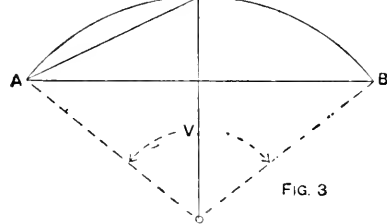

FIG. 3
will be approximately equal in length to the arc A B. Apart from geometrical construction, the length of the arc may be measured by stepping a pair of dividers round the arc, counting the number of steps taken, and then setting out the same number of steps along a straight line. This will always give a result short of the actual length, but the smaller the opening of the dividers the more accurate will be the result. A more accurate way is to use a wheelmefer, or a special instrument called an opisometer. The length of the arc may be calculated as follows. Set out the arc either full size or to as large a scale as possible, as in Fig. 3. Measure the chord A B, bisect it, and set up a perpendicular cutting the arc in C. Measure A C, which is the chord of half the arc. The length of the arc is found by multiplying the length of A C, the chord of half the arc, by 8, from this product subtracting the length of the chord A B, and dividing the remainder by 3. If the radius of the curve is known, and also the number of degrees contained in the angle (V), the length of the arc may be calculated in another way, as follows. The circumference of the whole circle is found by multiplying twice the radius by 3.1416. Then, as the circumference contains 360°, the length of the arc will be proportionate to the number of degrees it contains, and can be arrived at by a simple rule of three sum, thus, 360° : degrees in the arc :: circumference : length of arc.